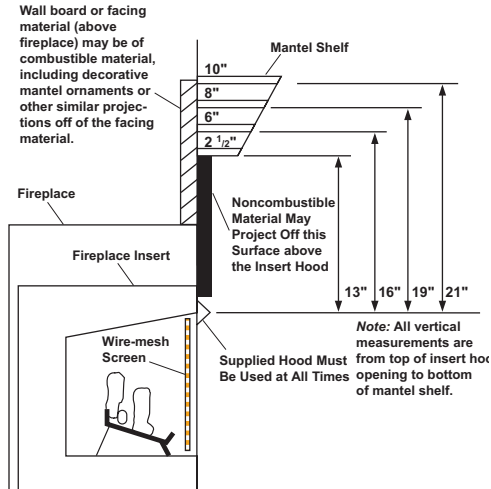

Figure 12 - Minimum Mantel Clearances for Fireplace Insert Installation
- A. Clearances from the side of the fireplace cabinet to any combustible material and wall should follow diagram in Figure 12, page 12.
If there is a mantel above masonry fireplace, you must meet minimum clearance between mantel shelf and top of fireplace opening (see Figure 12, page 12).
Installation of this fireplace insert involves installing fireplace insert into an existing masonry fireplace. If using a mantel above the fireplace, you must follow the clearances shown in Figure 12, page 12. Follow the instructions below to install the fireplace insert in this manner.